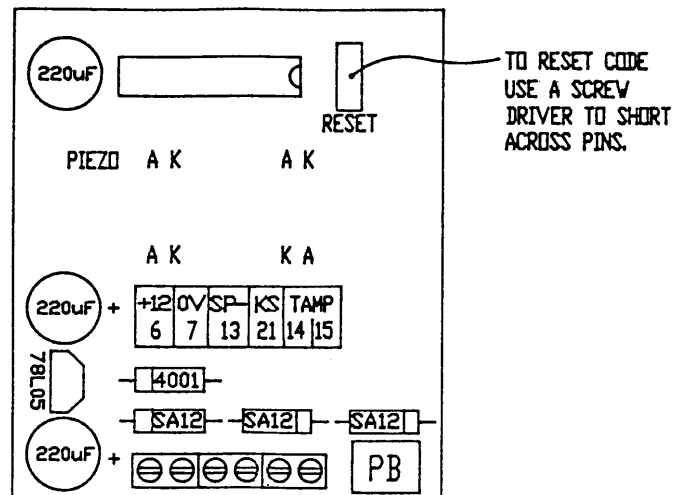

FIG 3
3. Using a small screw driver, short across the re-set pins on the back of the p.c.b (see fig 3). This will return the remote keypad back to (O).